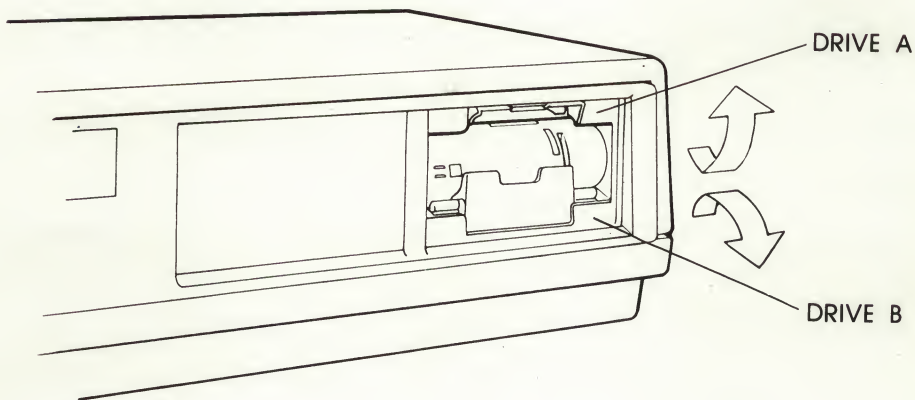

Figure 5 Open Drive Doors
- 1 Open the diskette drive doors and make sure that all drives are empty, as shown in Figure 5.